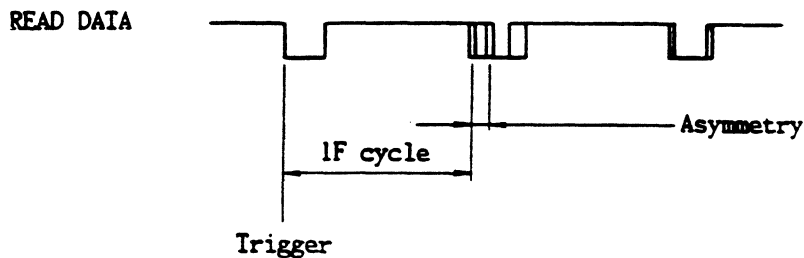

Figure 4-8 Asymmetry Measurement
5. Measure asymmetry as shown in Figure 4-8.
**Note:** Set the oscilloscope so 3 read data pulses can be observed and measured on the screen, as shown in Figure 4-8.